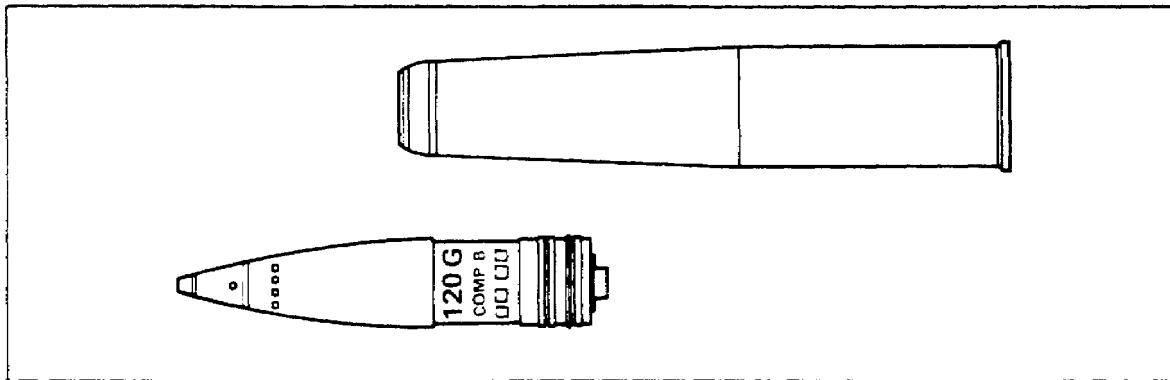

Figure 14. Separated Artillery Ammunition.
**Separated Ammunition.** Used in large guns, this type of ammunition is issued in two separate components, a sealed cartridge case and a projectile. Although there is no separated artillery ammunition in US Army stocks at this time, it is used by our allies and our ammunition personnel must be able to identify it. See Figure 14.